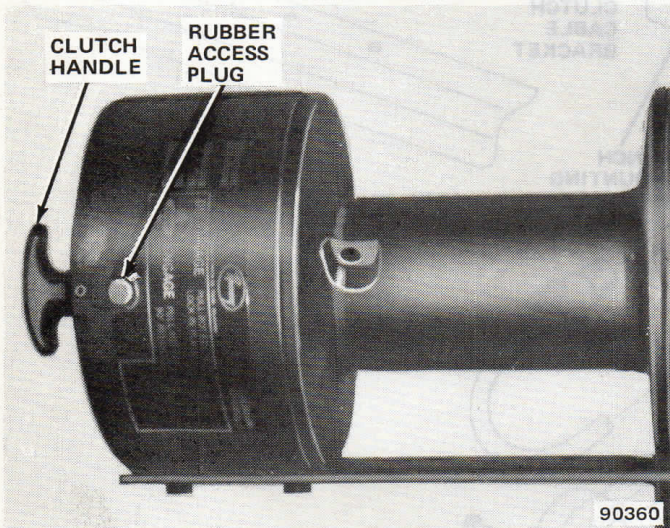

Fig. 5-14 Access Plug and Clutch Handle Location
(10) Remove rubber access plug from winch clutch housing (fig. 5-14), and loosen clutch shaft setscrew until shaft rotates freely.
(11) Remove pin retaining clutch handle to clutch shaft and remove handle (fig. 5-14).